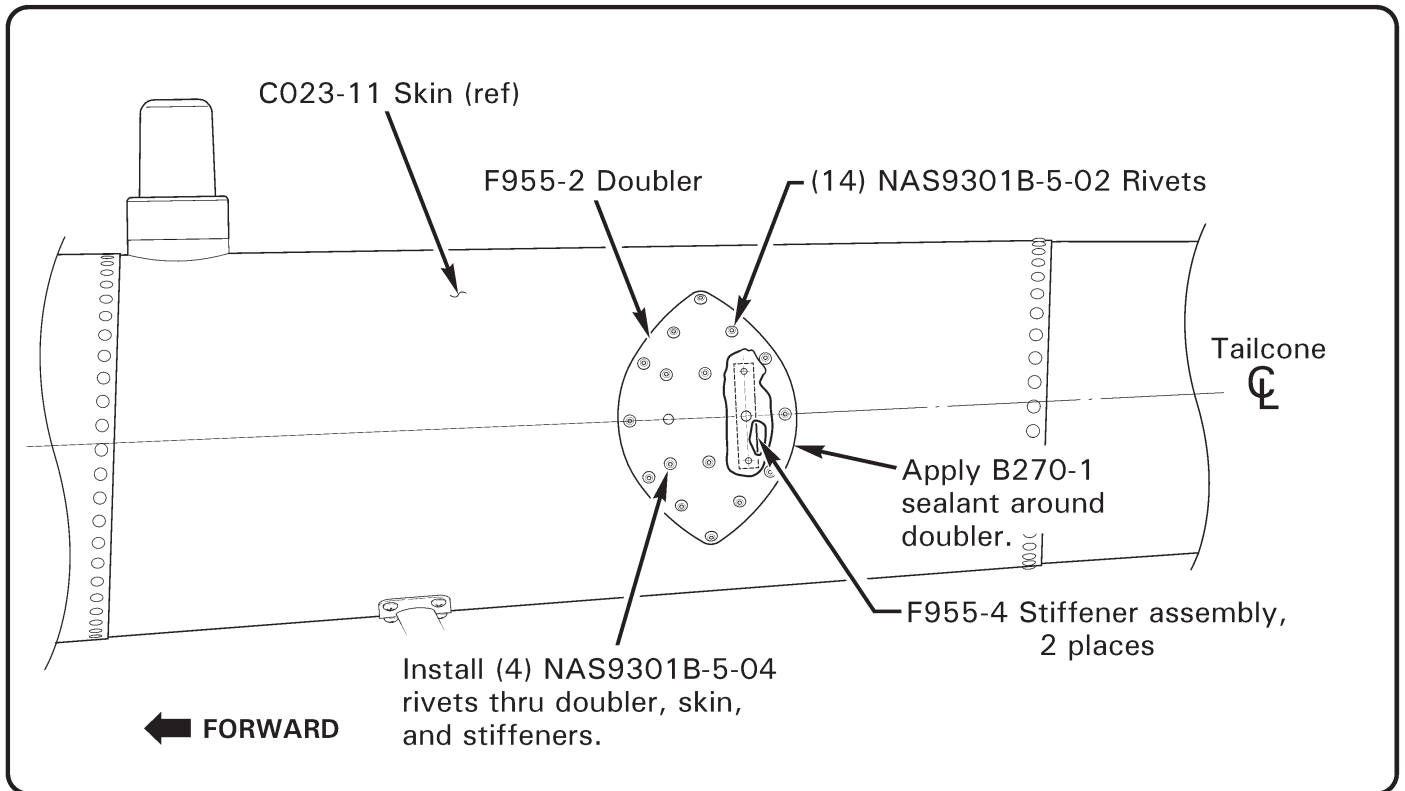
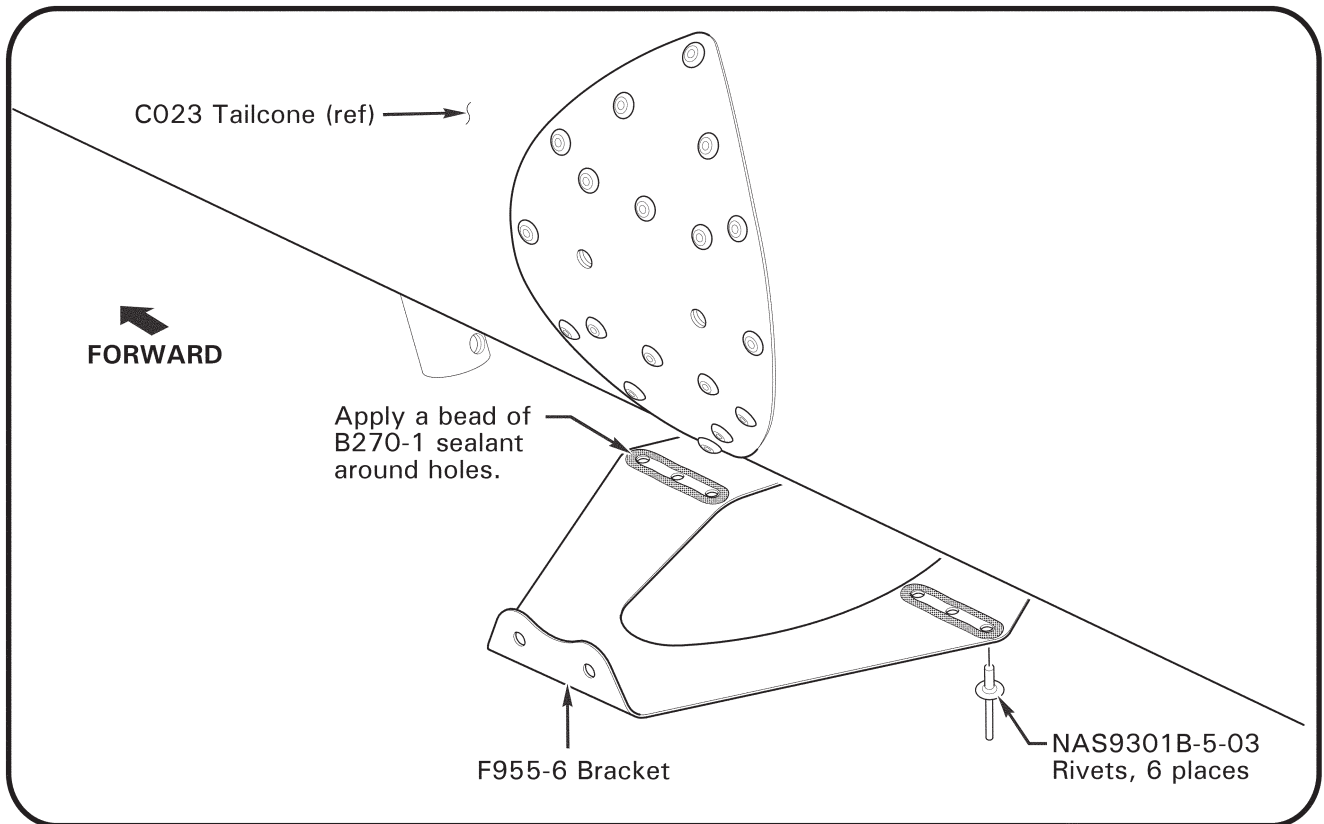

FIGURE 7 Doubler & stiffener assembly installation
FIGURE 10 F955-6 bracket installation
13. Refer to Image 4. Position doubler as marked in step 10 with safety wire threaded thru matching rivet holes of doubler. Align holes of stiffeners, tailcone, and doubler. Install clecos thru holes of doubler that align with lower holes of stiffeners. Temporarily secure doubler and stiffeners to tailcone using (2) NAS6604-3 bolts & (4) NAS1149F0432P washers ([2] washers per bolt); snug bolts hand tight. Remove safety wire. Install clecos in all remaining holes in doubler. Perform steps 12 & 13 on opposite side of tailcone.
14. Refer to Figure 7. Install stiffeners and doubler to tailcone skin using (4) NAS9301B-5-04 rivets thru stiffeners, and (14) NAS9301B-5-02 rivets thru doublers, each side of tailcone as shown, removing clecos one at a time as required. Inspect installed rivets per manufacturers' specifications at: CA-1015.pdf (cherryaerospace.com). Remove bolts & washers.
17. Refer to Figures 7 & 10. Apply B270-1 sealant around F955-2 doublers as shown in Figure 7. Apply a small bead of B270-1 sealant around the three rivet holes in F955-6 bracket (two places), as shown in Figure 10.